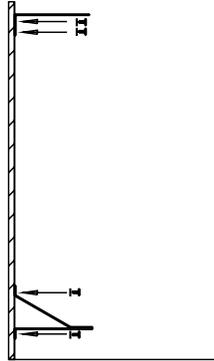

FIGURE 3 - INSTALL MOUNTING BRACKET
Step 1: Secure wall and stabilizing brackets to mounting surface (Figure 3).